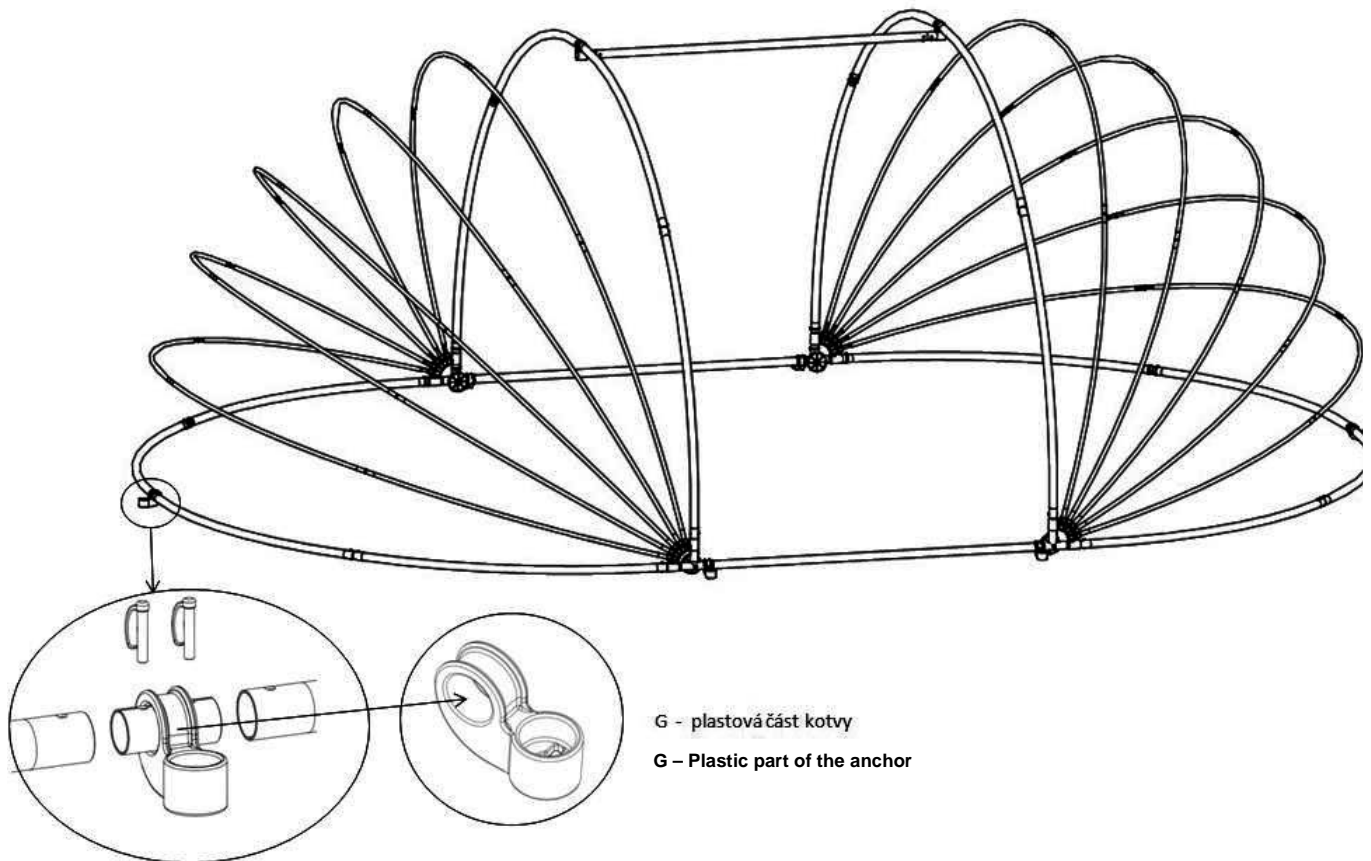
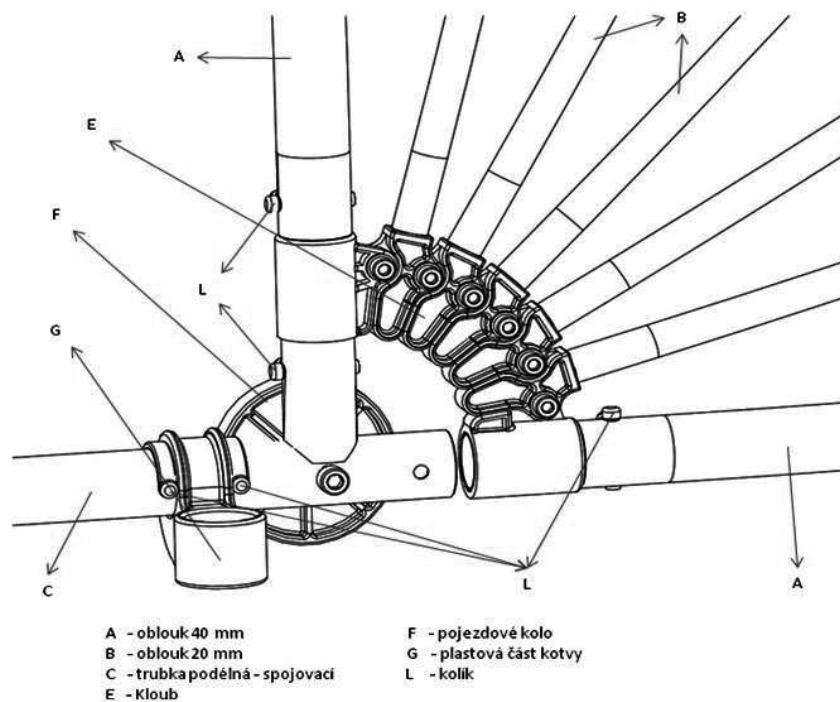

Fig. 10
Fig. 11
The roofing canvas terminates with a sleeve in which the arches (A) 40 mm should be slid in and connected with couplings (K). On the arch crown the anchor part (G) must be inserted between the cotter pins (see Fig. 10). Then the whole arch should be put on the joint with the traversing wheel (Fig. 11).
The lower frame of the roofing, after being properly assembled, shall be provided with anchoring elements (G), see Fig. 10.